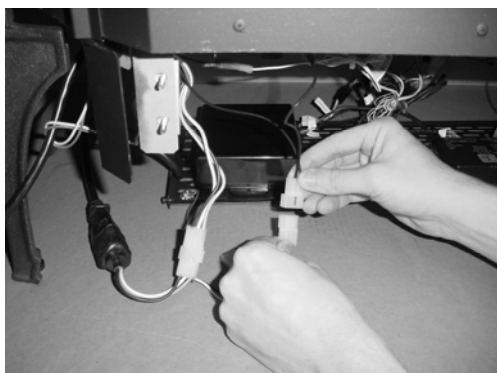
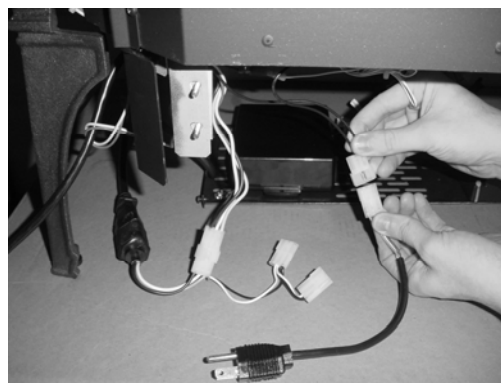

Figure 26
Figure 27
- 17 Access the back of the stove and disconnect the power lead from accent light (see Figure 26). Connect the accent light wiring to the power lead included with this kit (see Figure 27).